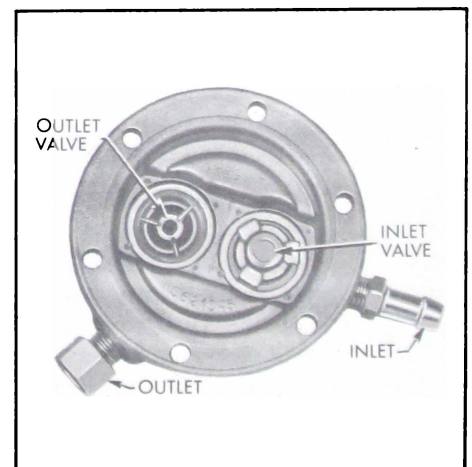

Figure 3-22—Valves in Fuel Cover
4. Place a new gasket in each valve seat in fuel cover. Place valve in seat nearest "IN" connector with spring cage facing up. Place other valve in outlet valve seat with spring cage down. See Figure 3-22.